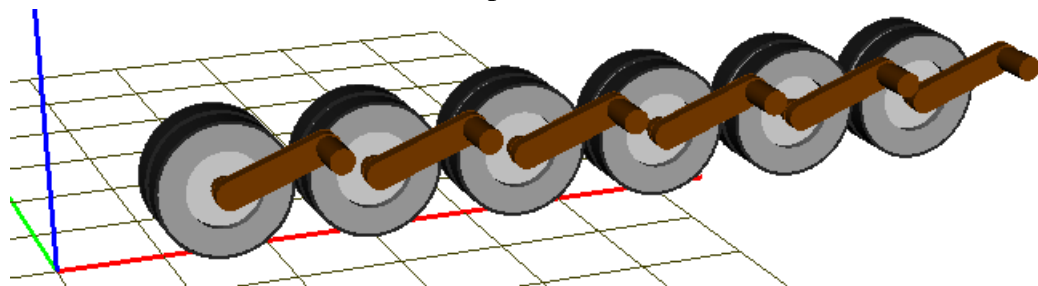

Fig. 7 First variant of suspension
2) Click the **Generate** button to create the suspension according to the specified parameters; the suspension appears in the animation window, Fig. 7